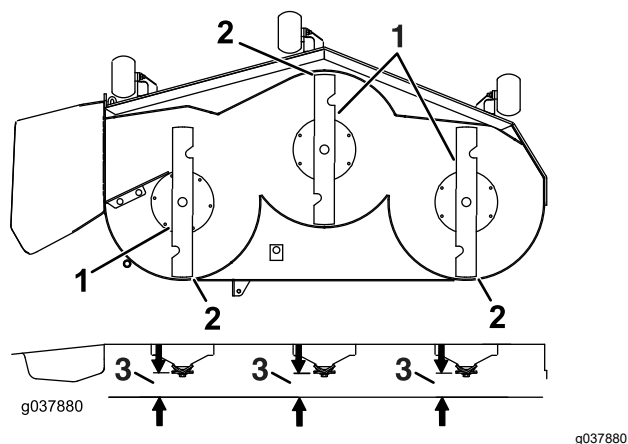

Figure 102
7. Check the front-to-rear blade level (Figure 102). Ensure the front blade tip is lower than the rear blade tip as shown in the block height and rake table. If adjustment is needed, continue with this procedure.